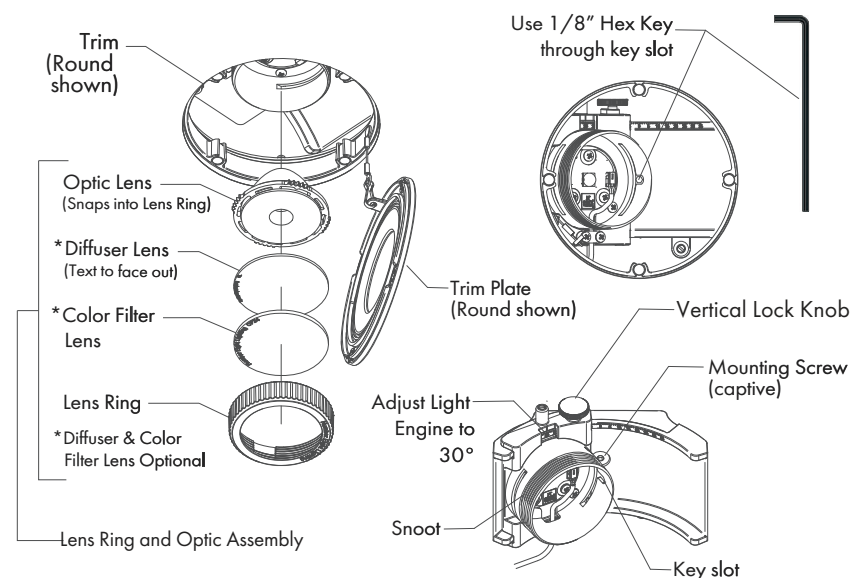

FIG 4.2 J5 Lamp Module Mounting
STEP 1 Remove Trim Plate. Unscrew Lens Ring and Optic Assembly and remove from Snoot. Loosen Vertical Stop Knob and adjust Lamp Module to 30° to position Key Slot over the Mounting Screw as shown - **FIG 4.2**.
STEP 2 Loosen Mounting Screw (DO NOT REMOVE) using 1/8" Hex Key through Key Slot in Snoot. Remove J5 Lamp Module through trim aperture and disconnect wire connectors - **FIG 4.2 and 4.3**.
STEP 3 Fasten Mounting Screw into threaded hole using 1/8" Hex Torque Driver set to **1.5 Nm** (DO NOT OVERTIGHTEN) - **FIG 4.2**.